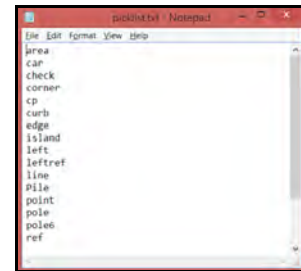

Figure 127
- Use a program such as Microsoft Notepad to create the text file (Figure 127). Notepad is typically found by clicking on the Windows icon to access All Programs > Accessories on PCs running Windows Vista, Windows 7 or Windows 8.